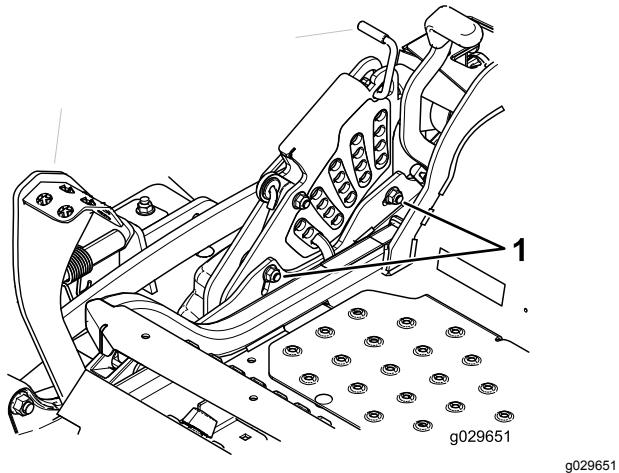

Figure 93
12. To adjust the single point system, loosen the two bolts at the bottom of the height-of-cut plate. Refer to Figure 93.
14. Tighten the 2 bolts at the bottom of the height-of-cut plate (Figure 93). Torque them to 37 to 45 N·m (27 to 33 ft-lb).